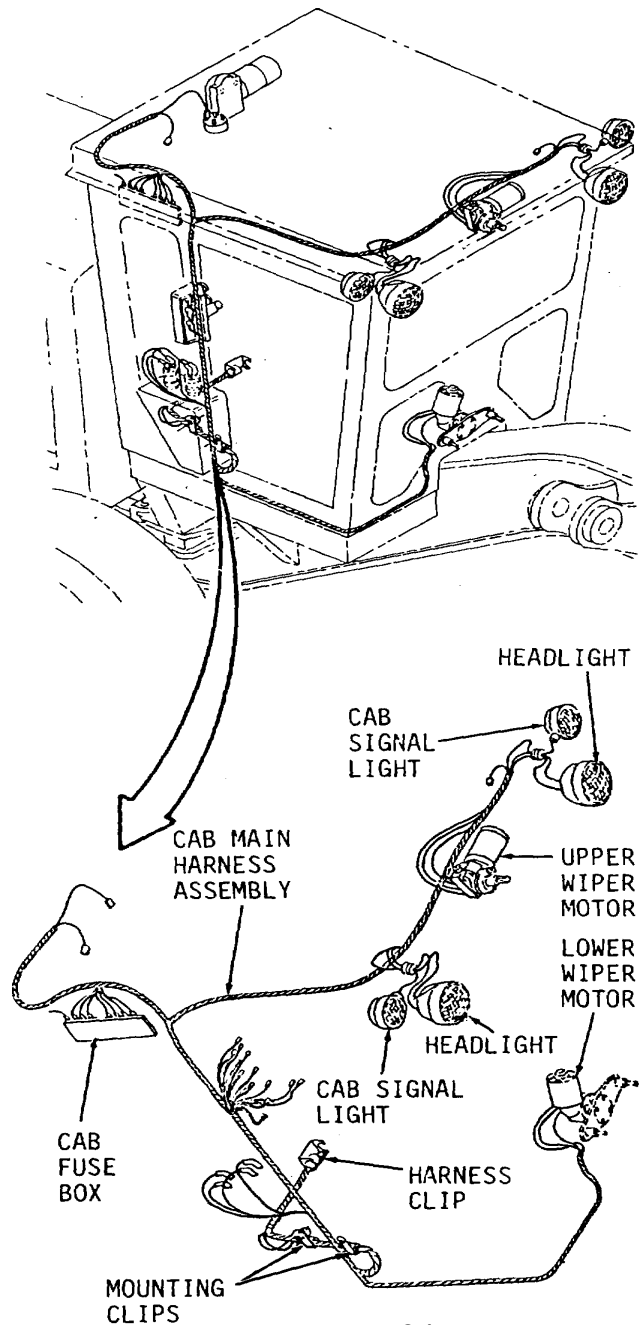

Figure 4-94.
3. Disconnect cab main harness assembly from cab fuse box, cab signal lights, headlights, wiper motors and harnesses (Figure 4-94).